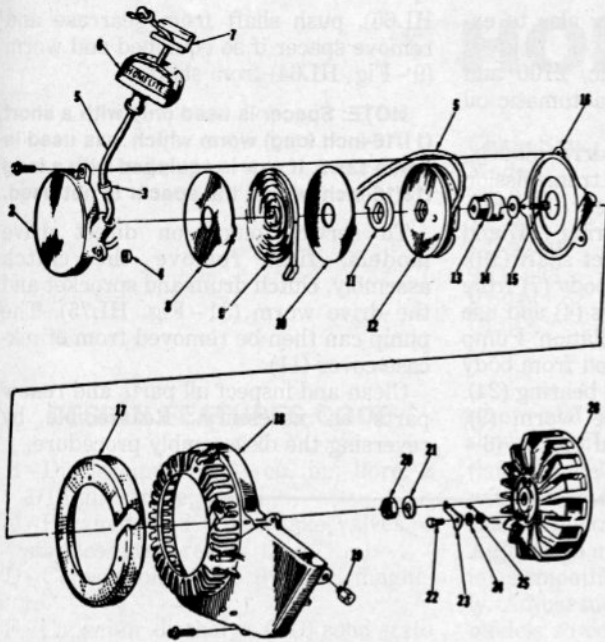

Fig. HL72—Exploded view of pawl type starter used on models outlined in text.
REWIND STARTER. All models except Model C-52 are equipped with the pawl type clutch assembly shown in Fig. HL72. Rewind spring (9) is wound in cover (2) in clockwise direction. Tension is placed on rewind spring by turning cover (2) in clockwise direction approximately three turns before installing cover retaining screws. If Model C-52 starter renewal is required, a starter from a later model saw covered in this section must be installed.